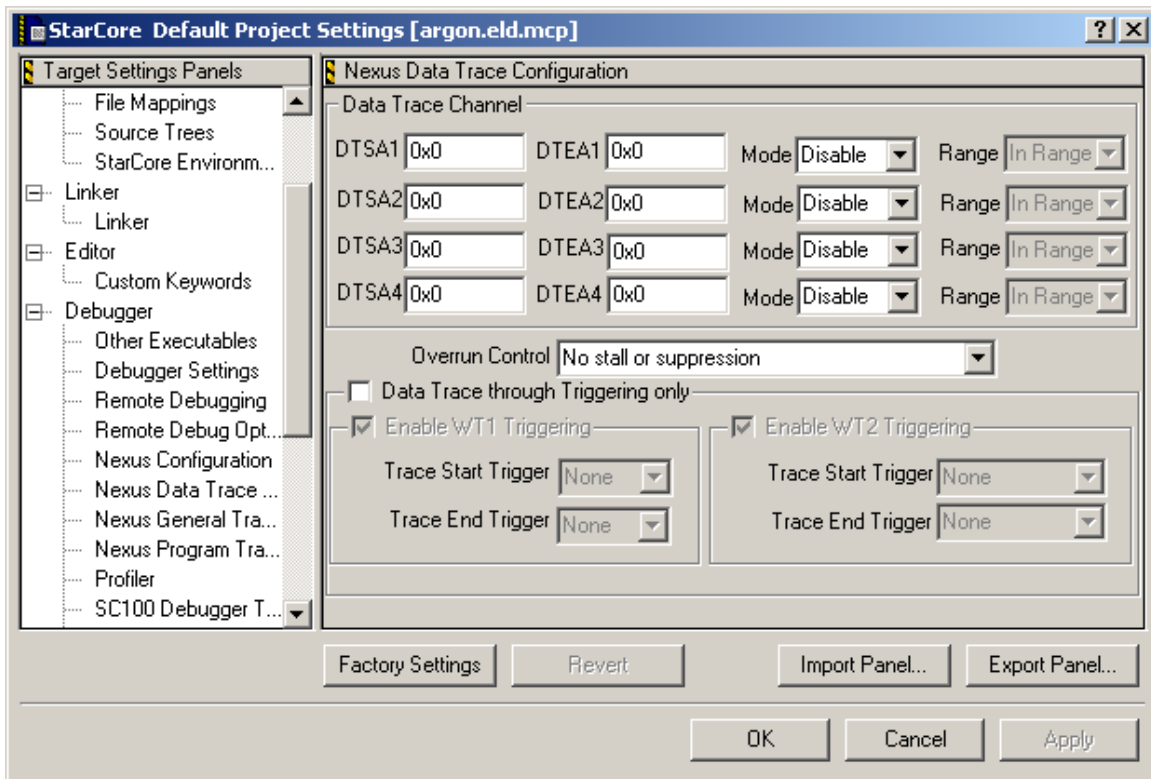

Figure 17: Nexus Data Trace Configuration
- c. Nexus Data Trace Configuration: Figure 17: Nexus Data Trace Configuration shows the Data Trace configuration. This essentially configures for no data tracing